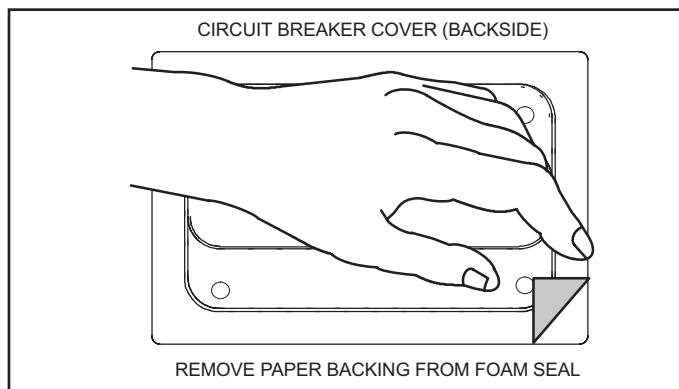

FIGURE 8. Remove Paper Backing
- 2 - Remove paper backing from foam seal around perimeter of circuit breaker cover (figure 8).